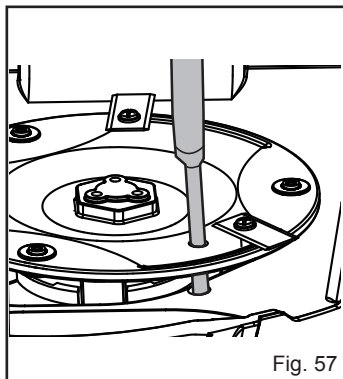

Fig. 57
- Use a suitable tool (e.g., a screwdriver) to insert into one of three holes in the blade disc to fix it in place (Fig. 57). This ensures the blade disc is not turning when replacing the blades to avoid personal injury.